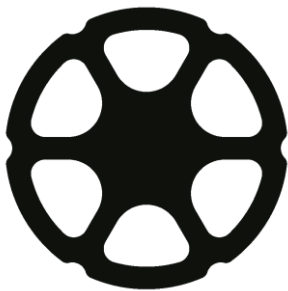

Fig. 7 Chemraz® valve, optional
- CHEMRAZ® has six grooves in its outer contour (see Fig. 7)